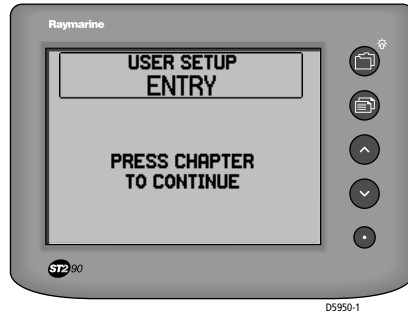

Figure 2-2: Confirm user setup screen
3. Hold down the  button for 2 seconds to display the USER SETUP ENTRY screen (see *Figure 2-2*).